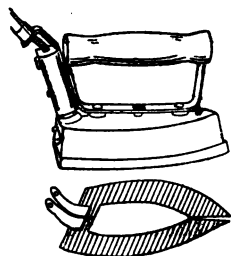

FIG. 52.— Electric flatiron, and resistance wire.
**Electric iron** (see figure 52). The value of the electric iron is widely appreciated and it is in general use. It maintains an even temperature; and it is especially valuable during the warm weather, as it is much more comfortable to use than the old type of iron, which required proximity of a hot fire. The heating element in some irons is a coil of wire wound over the flat strips of mica laid close to the bottom of the iron. In other irons the heating element consists of films of alloys of several metals on a mica base. Some irons have a device so that three degrees of heat may be obtained, high, medium, and mild. This is regulated by changing the position of the asbestos plug at the back, which comes in contact with three pins connected to the heating elements in the iron.